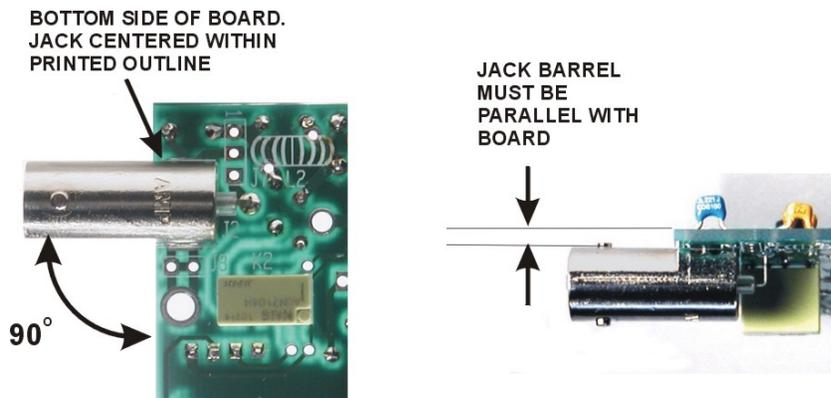

Figure 15. Installing J2.
Position jack J2 on the board so it is sitting within the printed outline as shown in Figure 15.
- “Sew” the long end of the wire through the hole in the core for a total of 14 turns as shown in Figure 15. Count one “turn” each time the wire passes through the center of the core. There are no “half” or “quarter” turns when winding a toroid. Match the winding direction shown in the figure or the leads won't line up with the solder pads on the circuit board.